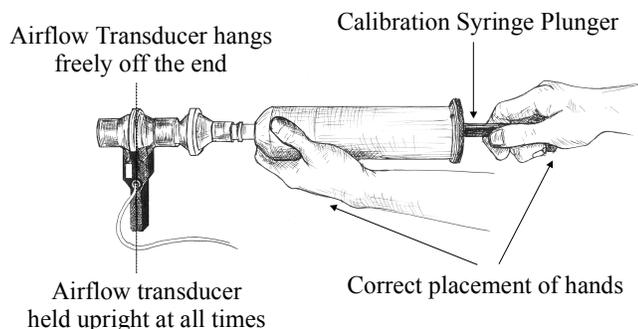

Fig. 13.6
- Pull the Calibration Syringe Plunger all the way out and hold the Calibration Syringe/Filter Assembly upright (Fig. 13.6)
Hold the syringe assembly as previously shown in Fig. 13.6.